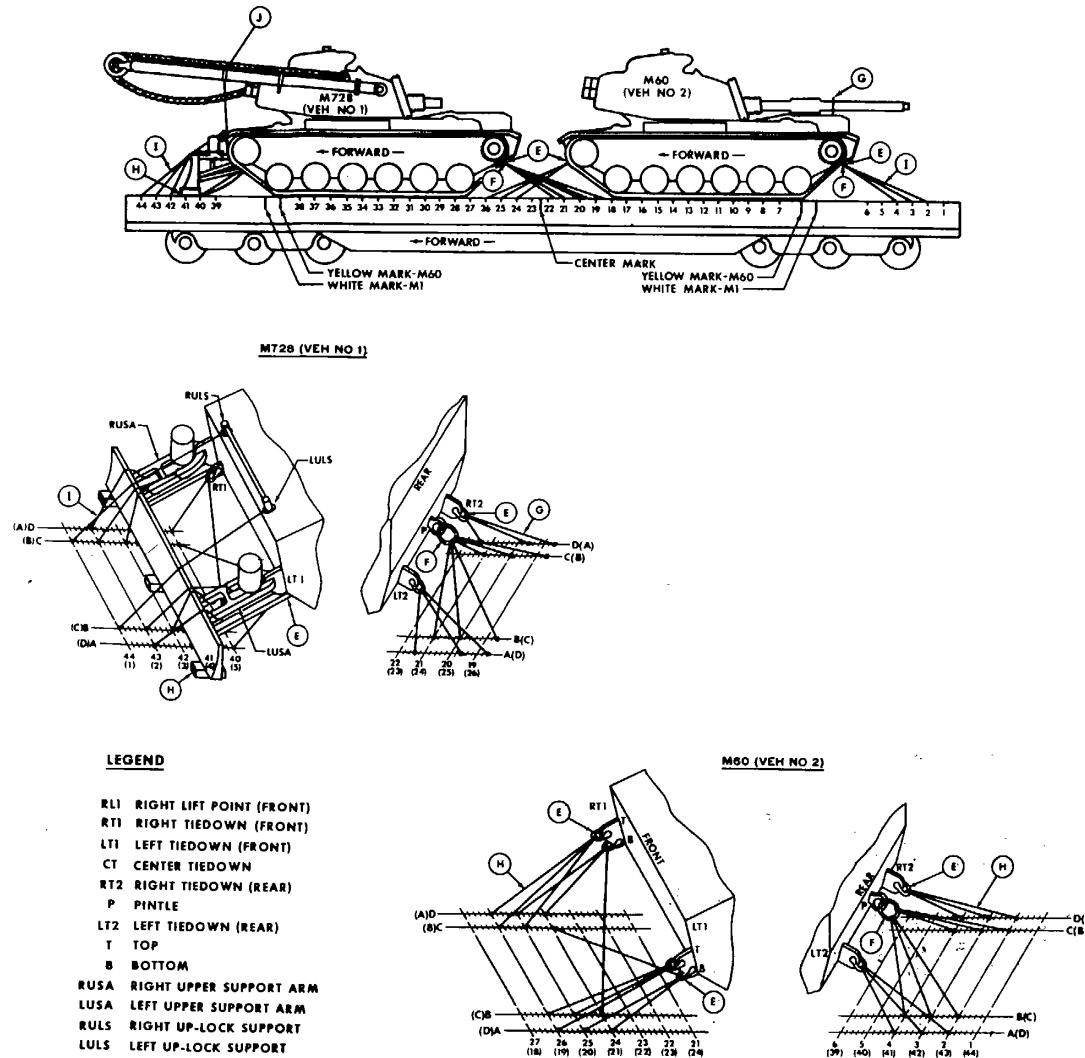

Figure 5-5. Chain tiedown arrangement for one M728 combat engineer vehicle and one M60 tank.
b. These vehicles must be lifted or driven onto the flatcar facing the same direction. The rear of the left idler wheel on the M728 must line up on the white mark at the M728 end of the car; the center of the rear roadwheel of the M60 must line up over the yellow mark at the M60 end of the car. The rear of the M728 vehicle must be secured with 12 chains, according to the same pattern as that used for the M60 tank rear tiedowns. The front of this M728 vehicle must be secured as shown in figure 5-5. The bill of materials required for one M728 vehicle and one M60 tank is provided in table 5-6, and the application of materials for these vehicles is explained in table 5-7. If one or both of the vehicles are loaded facing the opposite direction from that shown in figure 5-5, chain tiedowns will be applied as explained in table 5-8.